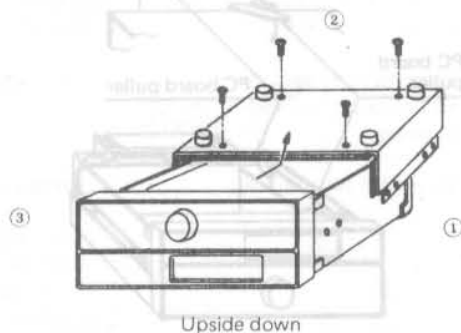

Figure 4.3 Removing the Screws
- (3) Remove four screws according to Figure 4.3.